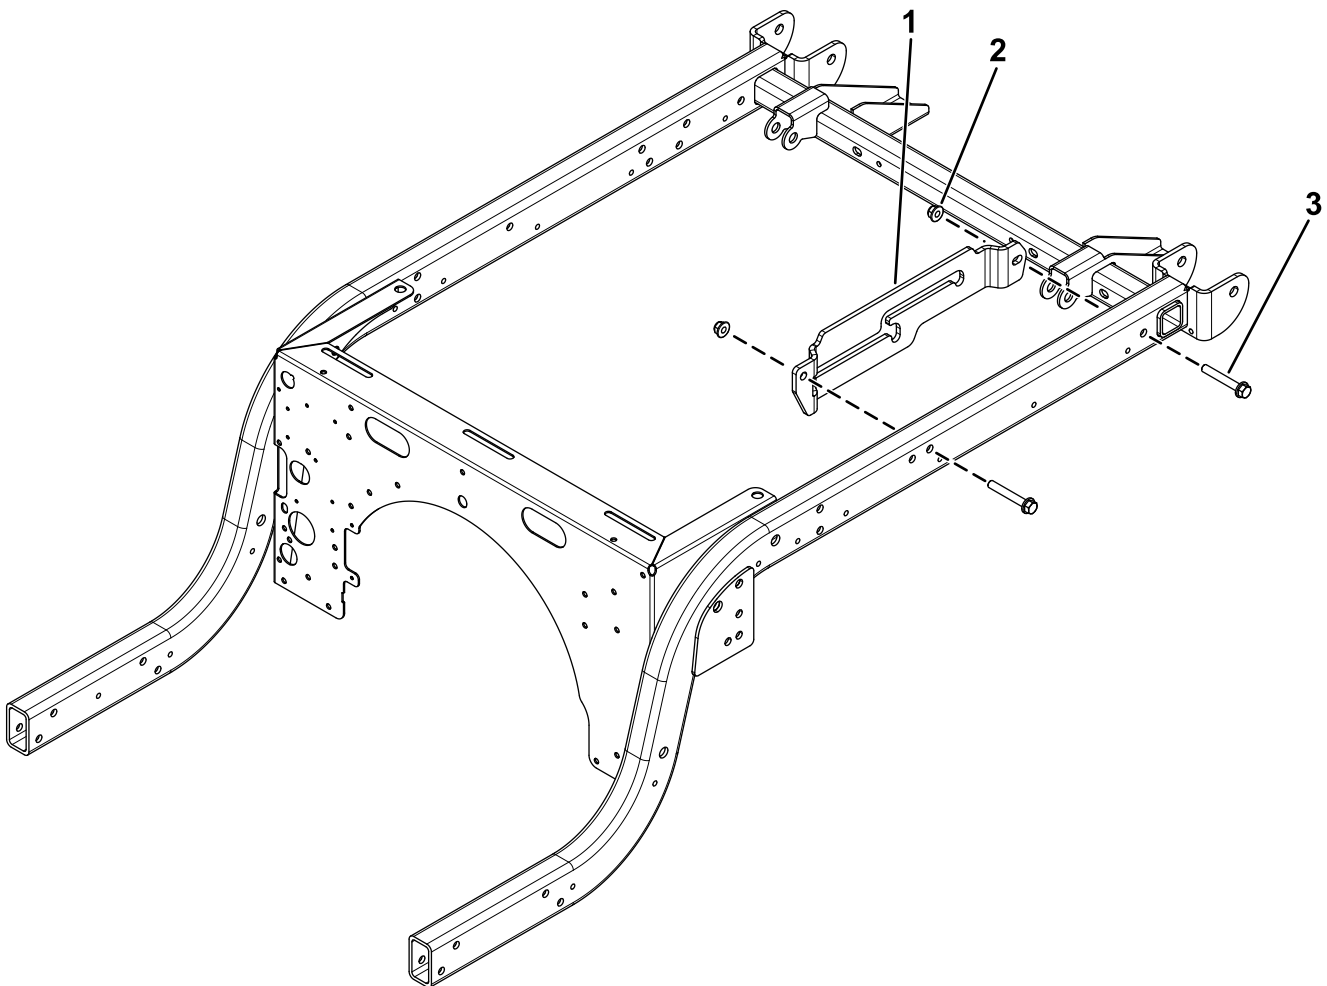

Figure 3
1. Secure the prop rod bracket to the machine frame using 2 hex-head bolts (3/8 x 2-1/2 inches) and 2 locknuts (3/8 inch) as shown in Figure 3.